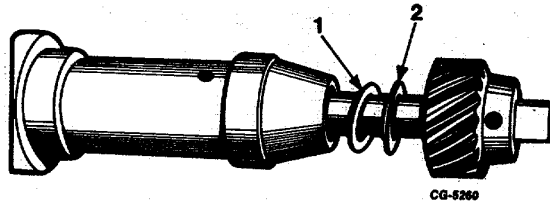

Fig. 16 Lower Thrust Washer
- 8. Place distributor housing and shaft assembly in a press and press gear and lower thrust washers (Figure 16) from shaft.